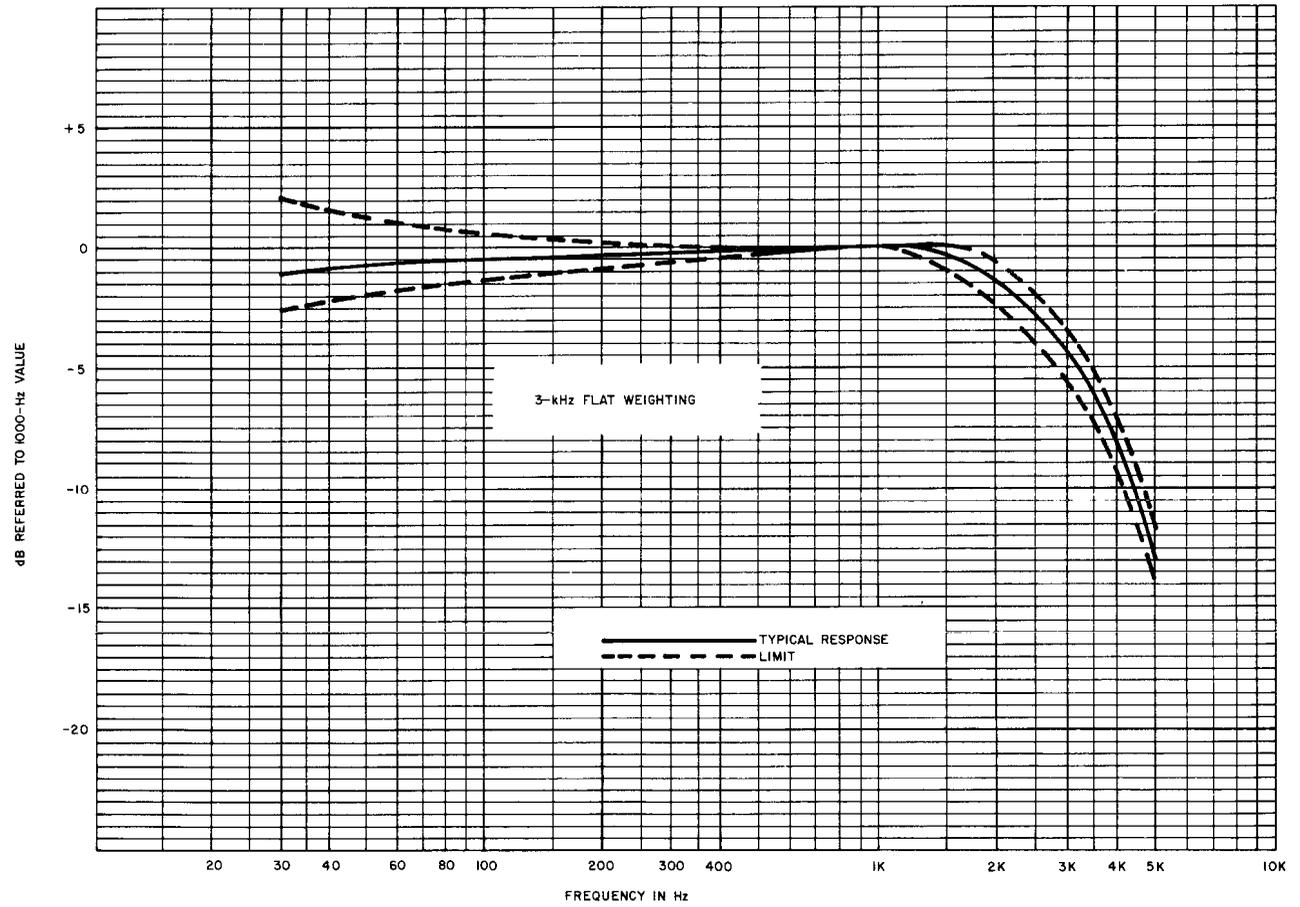

Fig. 6—3-kHz Flat Weighting Characteristic Curve
3.04 The 3-kHz flat weighting frequency characteristic, including manufacturing tolerances, is shown in Fig. 6. The 3-kHz flat (3KC FLAT) network, associated with this characteristic, is included in the package of the 497A network and is used when it is desired to weight all frequencies in the band equally. This is often useful for detecting the presence of low-frequency noise (20-Hz ringing current or 60-, 120-, and 180-Hz energy from power induction).